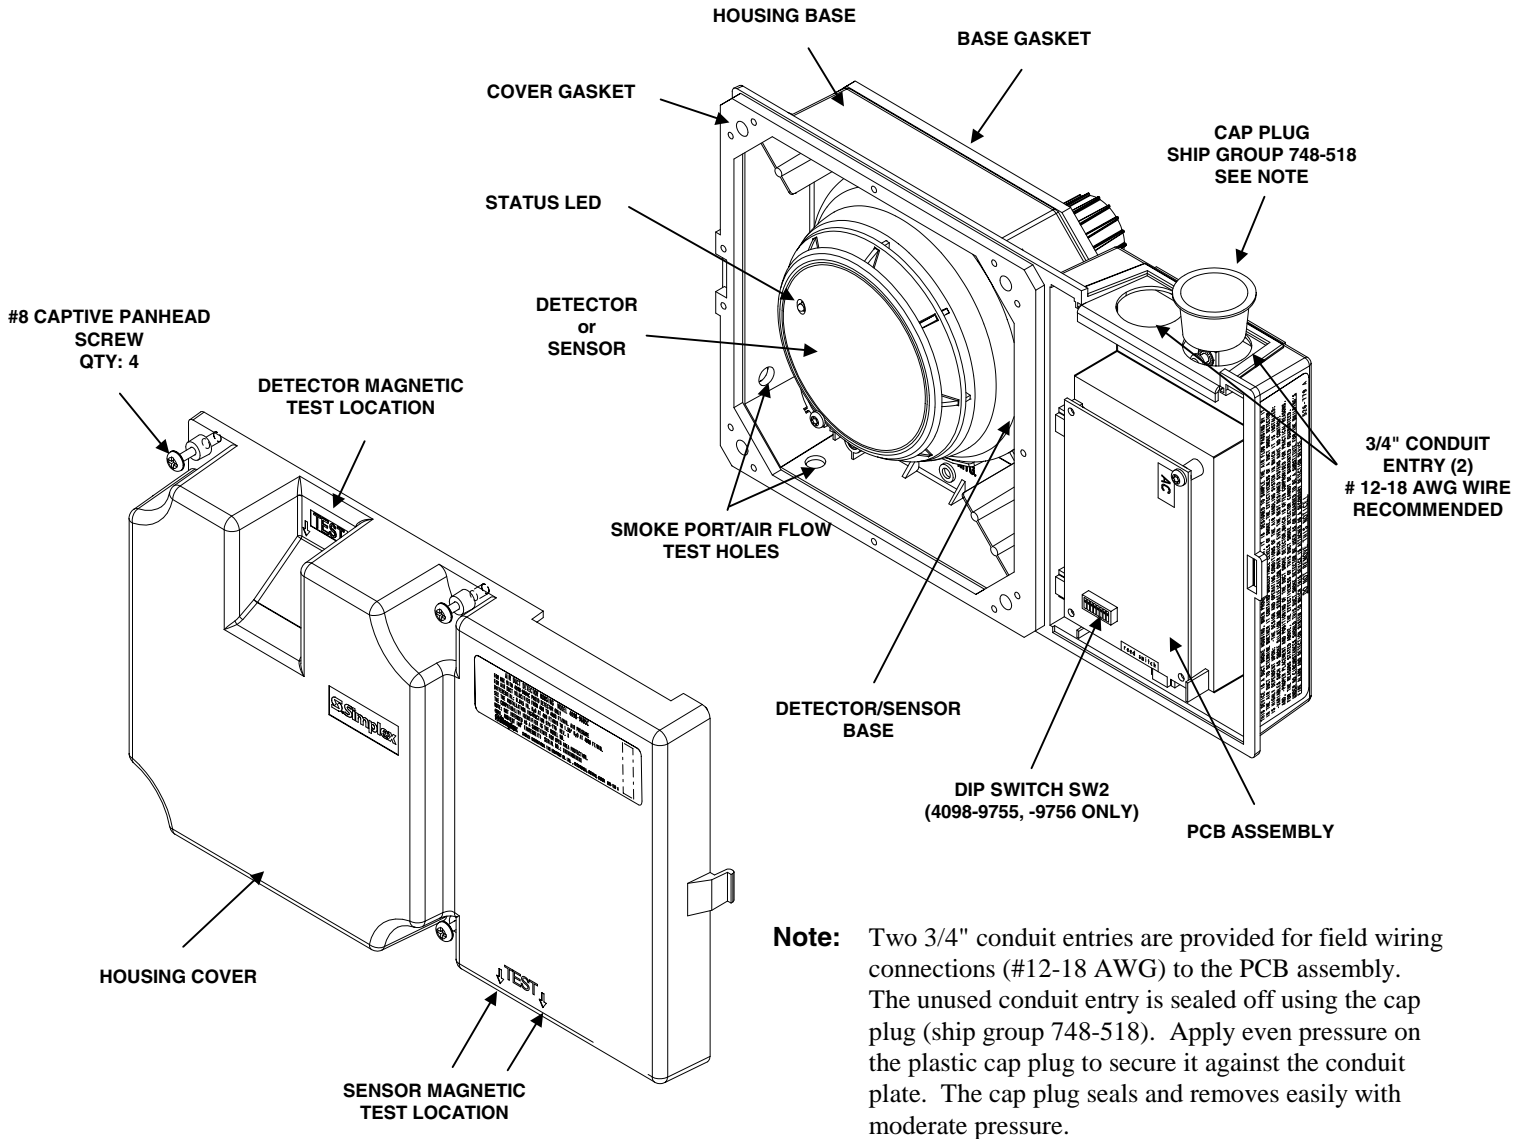

Figure 1. Duct Housing Components
The 4098 Duct Detector/Sensors (see Figure 1) are designed to sample air and detect smoke in air ducts. The 4098 Duct Detector/Sensors are available in the following configurations:
The procedures that follow are used to install the 4098-9755 or 4098-9756 addressable duct sensors. See Figure 1 for the location of the duct sensor DIP switches. The instructions provided show how to set the address at each sensor and also how to make electrical connections. Addressable smoke duct sensors are connected to a 2120 Multiplex Communicating Device Transponder (CDT), 4010 Fire Alarm Panel, 4020 Fire Alarm Panel, 4100+ Fire Alarm Panel, or 4120 Fire Alarm Panel by a single twisted-shielded wire pair (MAPNET II/IDNet).
2. Using the switch setting data for the duct sensor you are installing set the duct sensor's address using Figure 3. Loosen the four screws securing the clear plastic cover to the housing base. Locate the DIP switch on the duct sensor's PCB assembly in the wiring compartment (see Figure 1). Use a small screwdriver or pen to set the switches.
2. Using the example given in Step 1 as a guideline, set the duct sensor's address using Figure 3. Loosen the four screws securing the clear plastic cover to the housing base. Locate the DIP switch on the duct sensor's PCB assembly in the wiring compartment (see Figure 1). Use a small screwdriver or pen to set the switches.